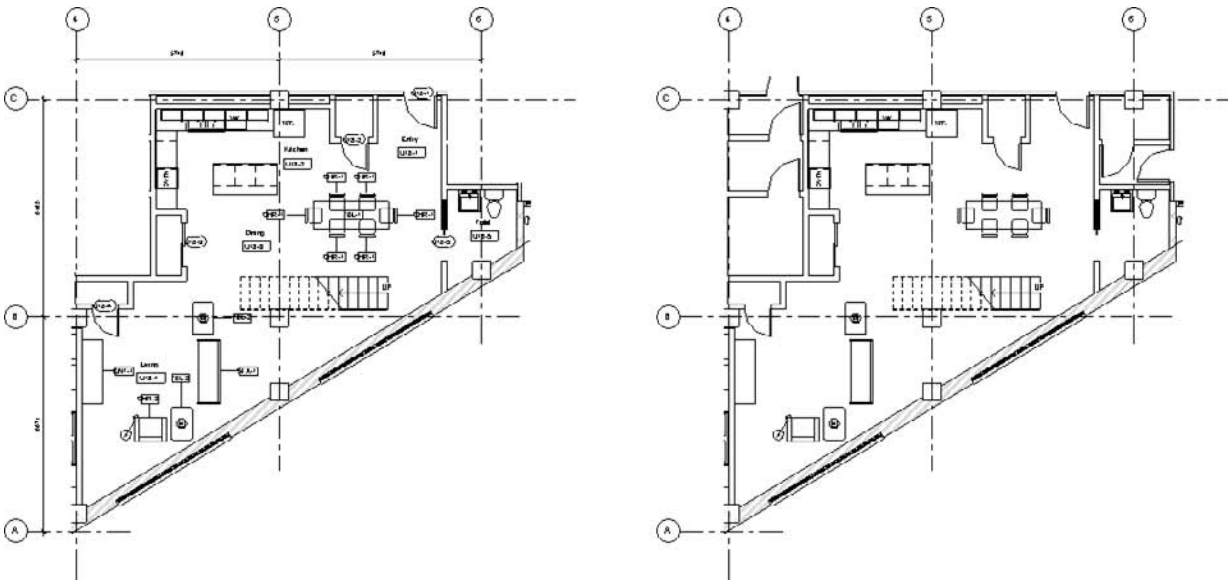

Figure 2.14
3. Right-click the view name (Figure 2.14).